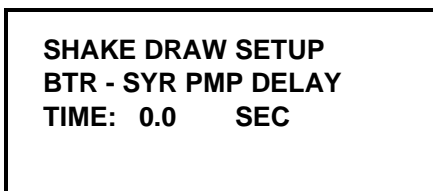

Figure 97
1. Selecting a flavor key immediately starts the beater motor and activates the BTR-SYR PMP DELAY TIMER. Adjusting the setting allows the beater to stir the partially melted product that may be around the draw valve inside the freezer door. Recommended setting: 0.5 seconds. (See Figure 97.)